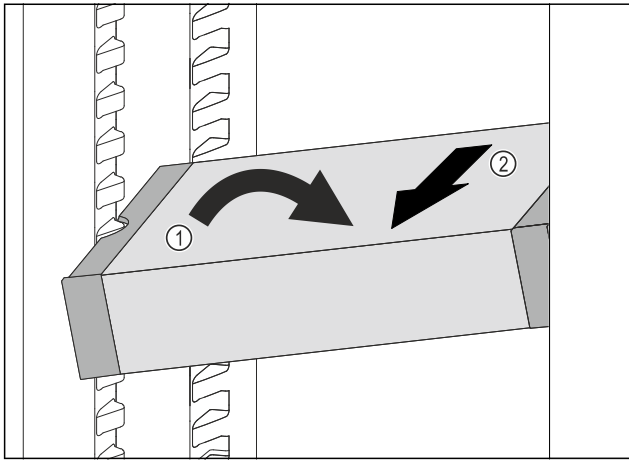

Fig. 58
- ▶ Set VarioSafe in refrigerator compartment at an angle. Fig. 58 (1)
- ▶ Take VarioSafe out to the front. Fig. 58 (2)